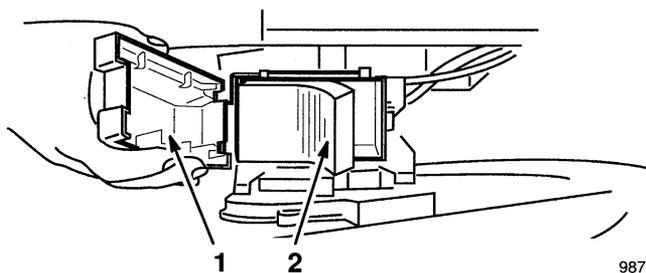

Figure 18
2. To remove air filter, snap cover latch open, swing to side and unhook (Fig. 18).